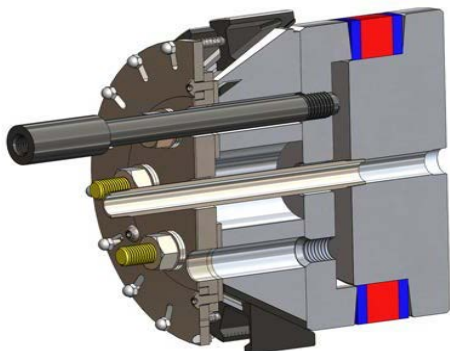

Figure 21: Inserting and Threading Lifting Standoffs into the Plug
- 12.1 Insert the **Lifting Standoffs(26)** into the two holes located on top of the **Spring Plate Hub(18)**. Hand tighten both **Lifting Standoffs(26)** until they bottom out, see Figure 21.